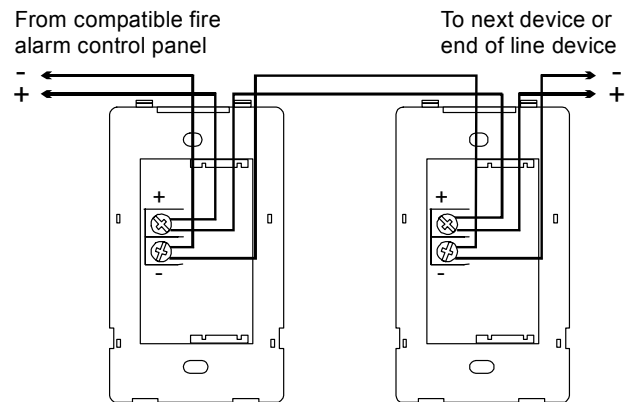

Figure 4: Wiring diagram
4. Connect the strobe terminals to the signal circuit field wiring. You must observe polarity for the unit to function properly. See Figure 4.